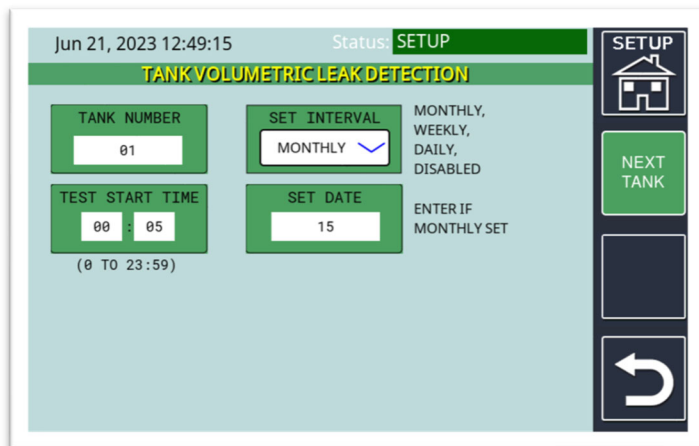

Figure 23.5
- f) When the SET INTERVAL is MONTHLY, Set Date is entered with the required date. (See Figure 23.5)